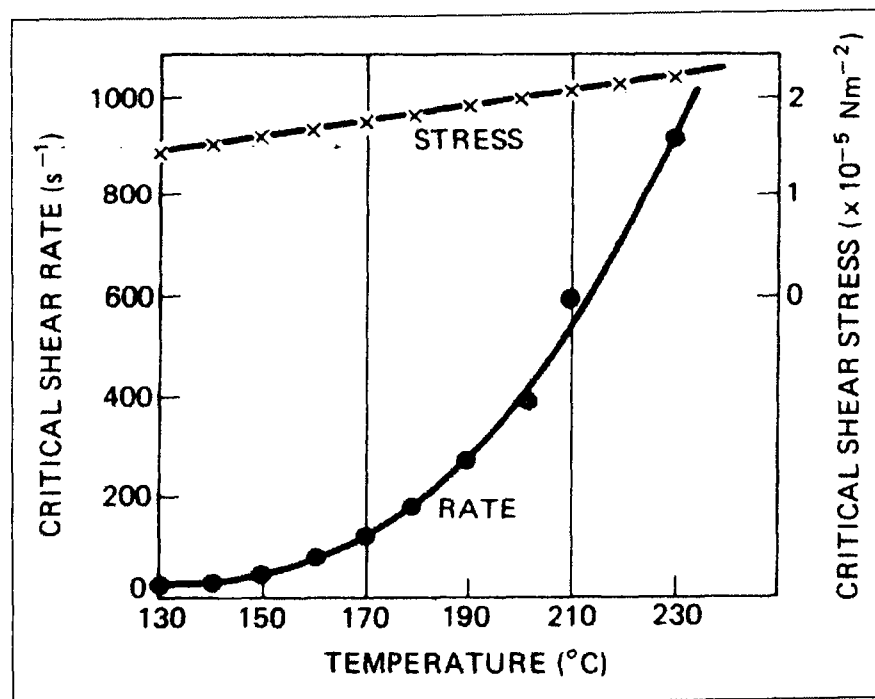

Figure 1 - Effect of melt temperature on onset of melt fracture in polyethylene
- [b] (i) Polymer extrudates can develop distortions at some critical shear rates or shear stresses. This phenomenon of distorted extrudates is called melt fracture. Figure 1 shows the effect of melt temperature on onset of melt fracture in polyethylene. Illustrate the shape of extrudates when the polymer is processed at the following processing conditions: